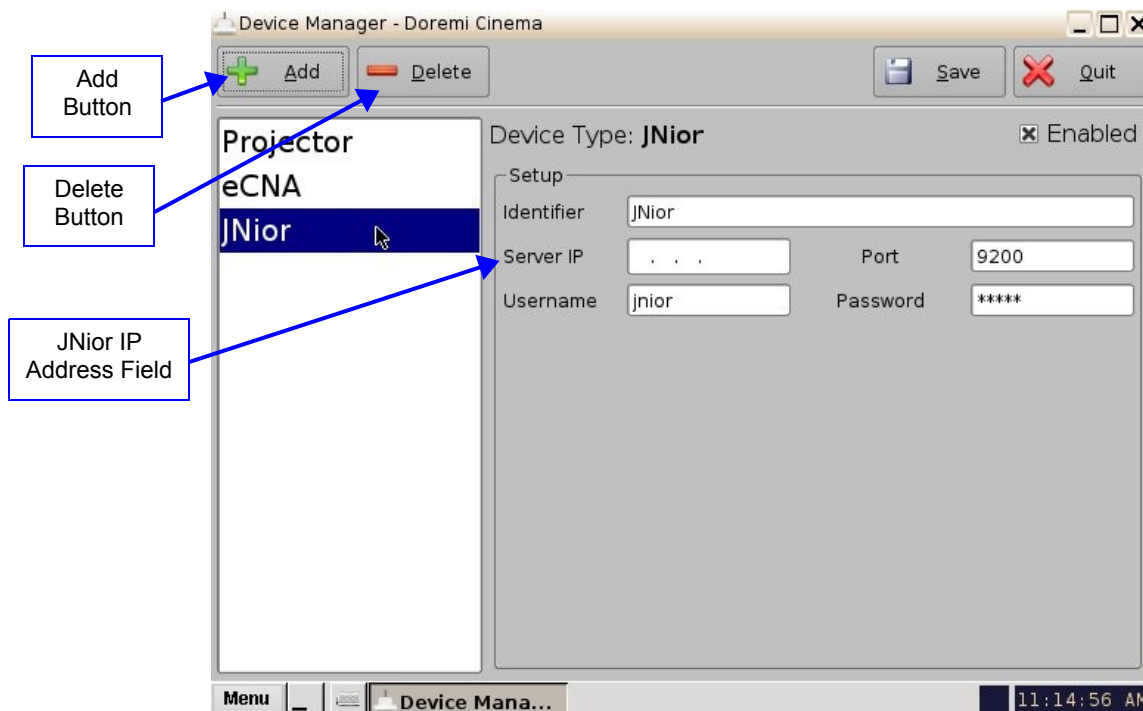

Figure 98: Device Manager GUI – JNior Device Configuration
- The Device Manager GUI will be updated to reflect the addition of the JNior device (Figure 98).
- Input the JNior Server IP address in the appropriate field as illustrated below (Figure 98).
- Click the Delete button (Figure 98).